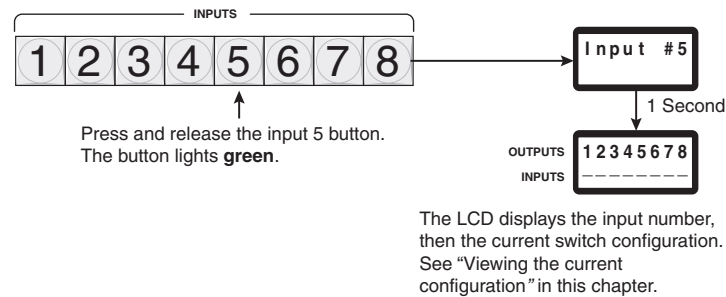

Figure 3-5 — Select an input
1. Press and release the Input 5 button (figure 3-5).